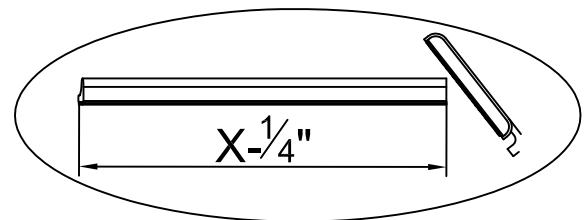

Fig.29
Using a hacksaw cut the Door Threshold bar (11) to fit distance measured between the large fixed glass and small fixed glass. Remove any sharp edges or burrs after cutting Door Threshold bar (11). See Fig.29 for details.